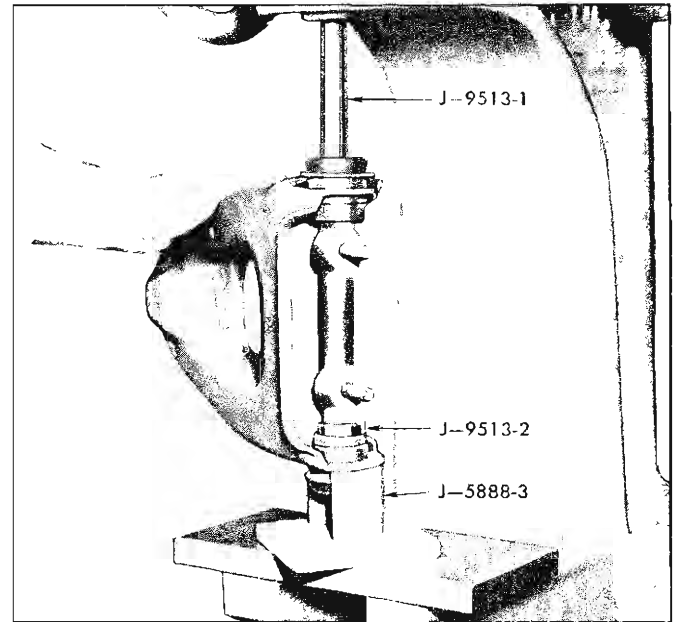

Fig. 44—Removing Pivot Shaft Bushing—Chevy II
5. Invert control arm, support on J-5888-3 and press out bushing with J-9513-1 (fig. 44).